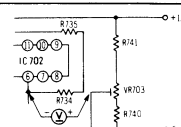
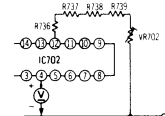
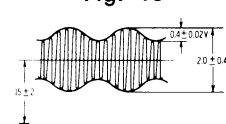

Fig. 13
Fig. 14
Fig. 16
<p>Ⓔ Capstan motor circuit adjustment</p> <p>Condition:</p> <ul style="list-style-type: none"> * Playback mode <p>Equipment:</p> <ul style="list-style-type: none"> * VTVM * Oscilloscope 	<p>A. Standard DC power supply voltage adjustment</p> <ol style="list-style-type: none"> 1. Measure the DC voltage between central point of VR703 and ⑥ terminal of IC702 as shown in fig.13. <p>Standard voltage: $0 \pm 0.05 \text{ V}$</p> <ol style="list-style-type: none"> 2. If measured voltage is not within standard, adjust VR703. <p>B. Phase lock point adjustment</p> <ol style="list-style-type: none"> 1. Measure the DC voltage between ④ terminal of IC702 and ground as shown in fig. 14. <p>Standard voltage: $5.2 \pm 0.1 \text{ V}$</p> <ol style="list-style-type: none"> 2. If measured voltage is not within standard, adjust VR702. <p>C. Position detecting signal output level adjustment</p> <ol style="list-style-type: none"> 1. Connect oscilloscope to test point (T.P. [P-V]). 2. Measure the peak-to-peak voltage of position detection signal of test point with the oscilloscope. 3. If the measured signal voltage is markedly different from the voltage shown in fig. 16, make the necessary adjustment with the VR701.